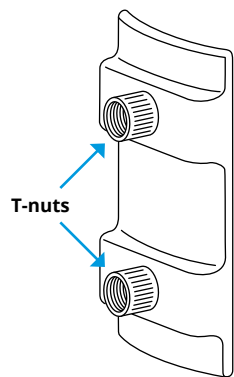

Figure 5
7. Add a thin layer of the stick wax to the exterior of the T-nuts. This step reduces the amount of resin build-up on the exterior of the T-nuts (Figure 5).